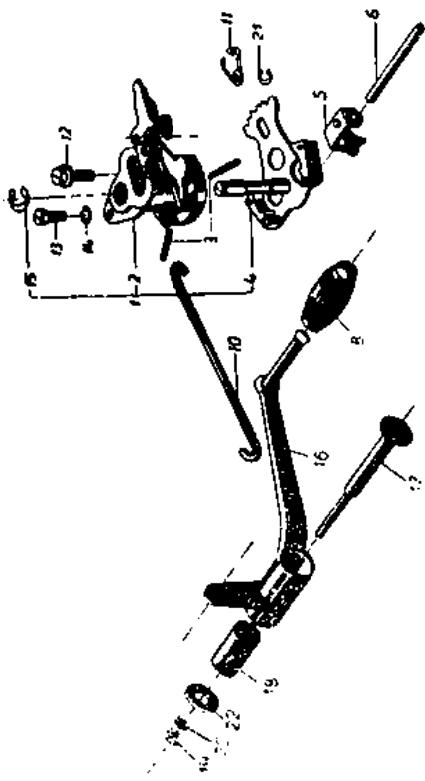
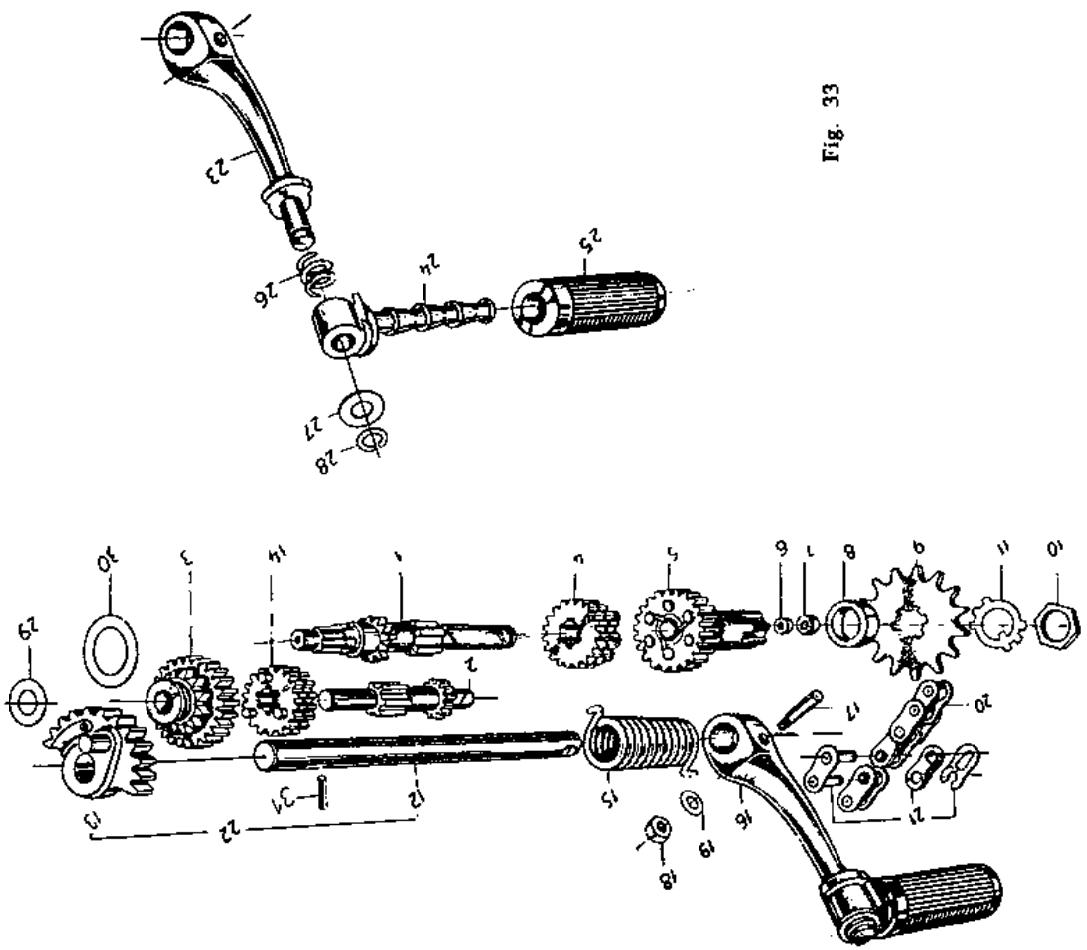

Fig. 32
Fig. 33
Pull out the guide (6, fig. 32) of the shift fork (5). Pull out the main shaft (1, fig. 33), the gear 20 teeth (4), the shift fork, the countershaft (2) together with a pinion (3) and the gear, 18 teeth (14). Detach the return spring (15) of the start shaft (12) from the catch in the R. H. box half and disengage the start with segment (13). From the upper part of the R. H. box half unscrew the M6×18 screw (13, fig. 32) fixing the gear shift automatic (1) with R. H. box half and remove the automatic. Dismantle the secondary transmission gear and pull out the gear with hub (5, fig. 35) by knocking with a wooden hammer.
47. Assembly of the gear box (fig. 32, 33, 36, 37)
Oil the R. H. box half contact surface and stick onto it the paper packing (37). By compressing the start lever forward introduce the segment teeth into the starter gear. Depress the start lever till the contact of the engine box halves is obtained. Arrange the centring bush in the front and rear box parts and tighten then the box halves with nine screws (17, 18, 19) and insert the stop screw (12, fig. 32) of the automatic. Mount, further on, the sealing rings on both sides of the crank mechanism and on the secondary gear shaft (chapter 35).